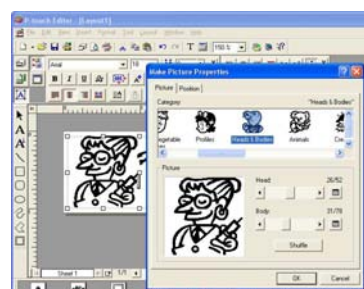

figure 22
- 3 Select the desired category and picture to create a humorous character, and then click the OK button (see figure 22).